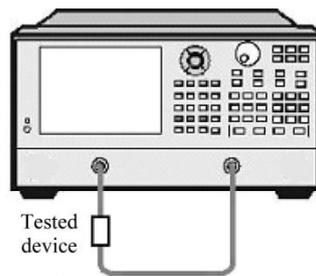

Fig. 8.21 Connection in Linear Phase Deviation Measurement
- 3) Connect the tested device as shown in Fig. 8.21.